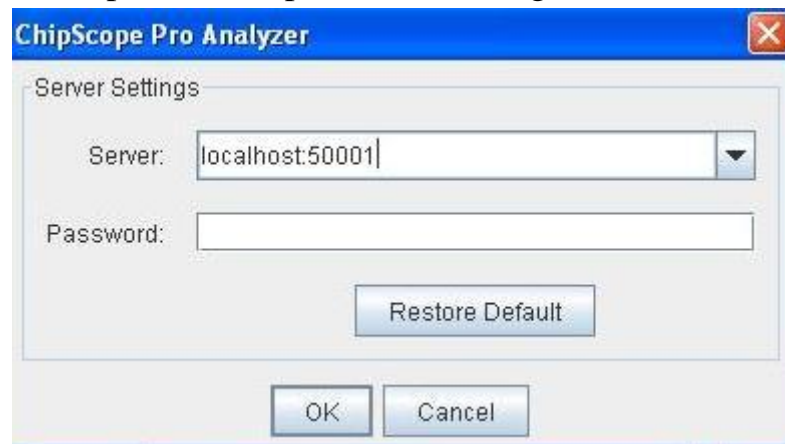

Fig 4.2: Server Settings
4. Click on **OK** to complete the step as shown in Fig 4.2.